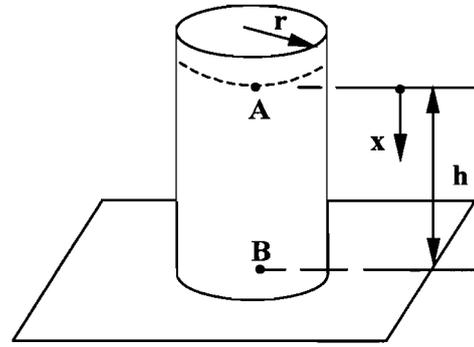

Figure 2
3. Figure 2 shows a thin-walled drinks can of thickness t , standing upright on a table. The weight of the can is negligibly small.